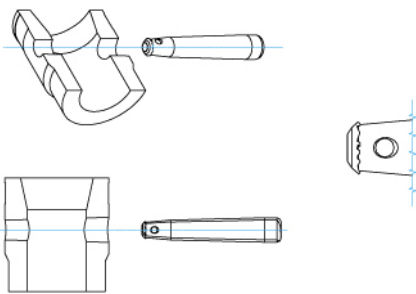

Figure 19 Damaged spigot pins
2. Cuts, dents, scratches and other damage to the smooth surface of the pin (see figure 19).